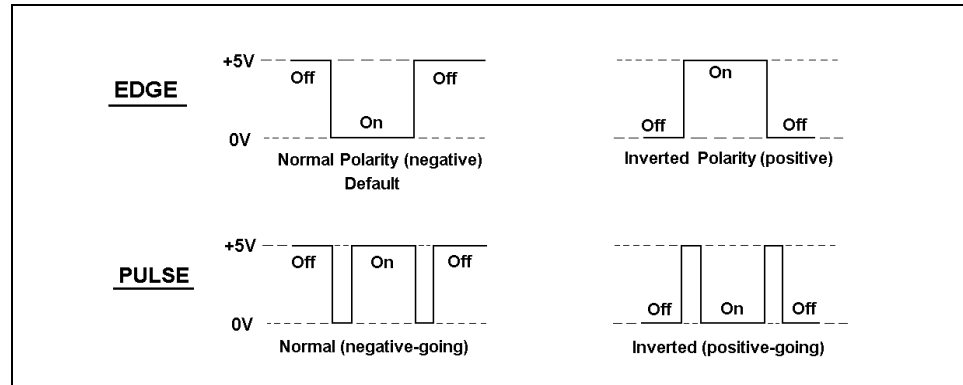

Figure E-4. TTL and Relay Input Signal Modes
- *Normal Edge*: In normal edge operation, the negative (falling) edge of a signal turns on the function and the positive (rising) edge turns off the function (see Figure E-4). For example, a negative edge sent to TTL1 turns on the pump motor and a positive edge turns off the motor.